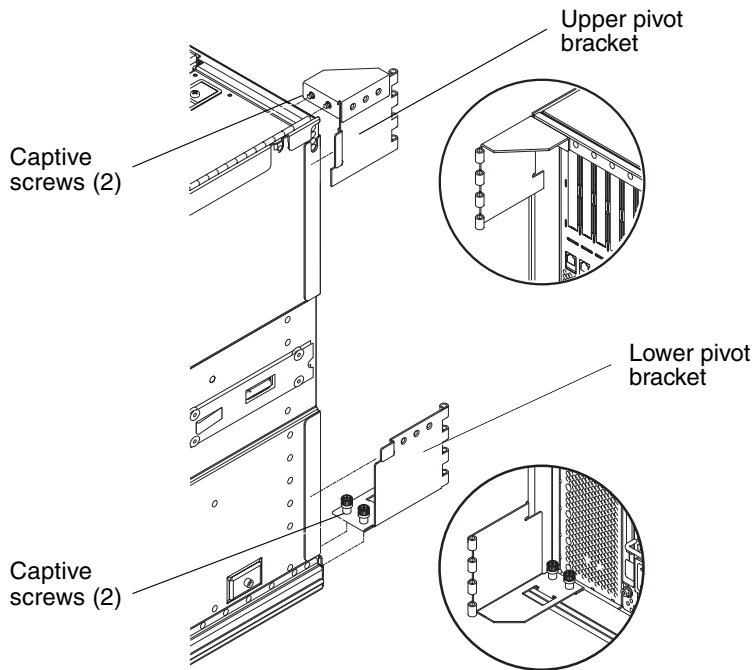
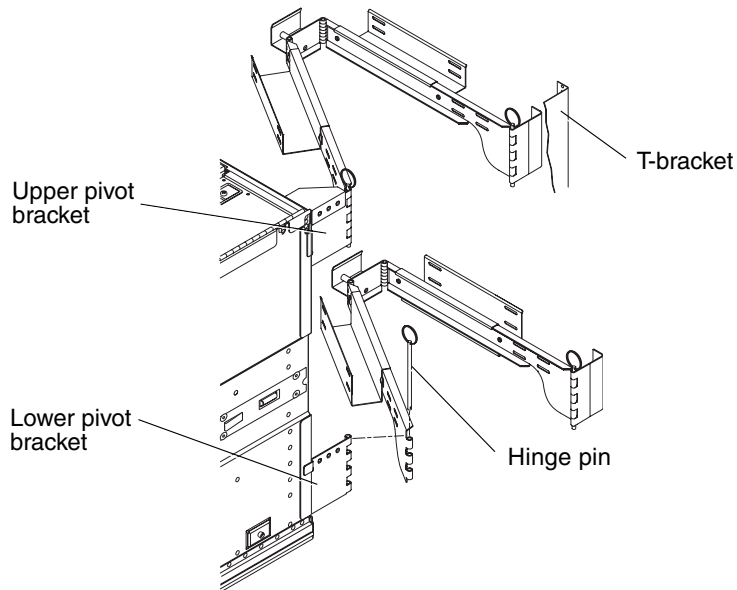

FIGURE 14-4 CMA-800 Upper and Lower Pivot Brackets
FIGURE 14-5 Upper and Lower Cable Arms and T-Bracket
8. Loosen the two captive screws that secure the lower pivot bracket (FIGURE 14-4).
3. Secure the upper pivot bracket to the system with the two captive screws (FIGURE 14-4).
4. Secure the lower pivot bracket with the two captive screws (FIGURE 14-4).
5. Secure the T-brackets to the left and right cabinet slide. Use two captive screws for each slide (FIGURE 14-5).
8. Reconnect the I/O cable arm to the upper pivot bracket. Install the hinge pin to secure it (FIGURE 14-4 and FIGURE 14-4).
9. Reconnect the power cable arm to the lower pivot bracket. Install the hinge pin to secure it (FIGURE 14-4 and FIGURE 14-5).